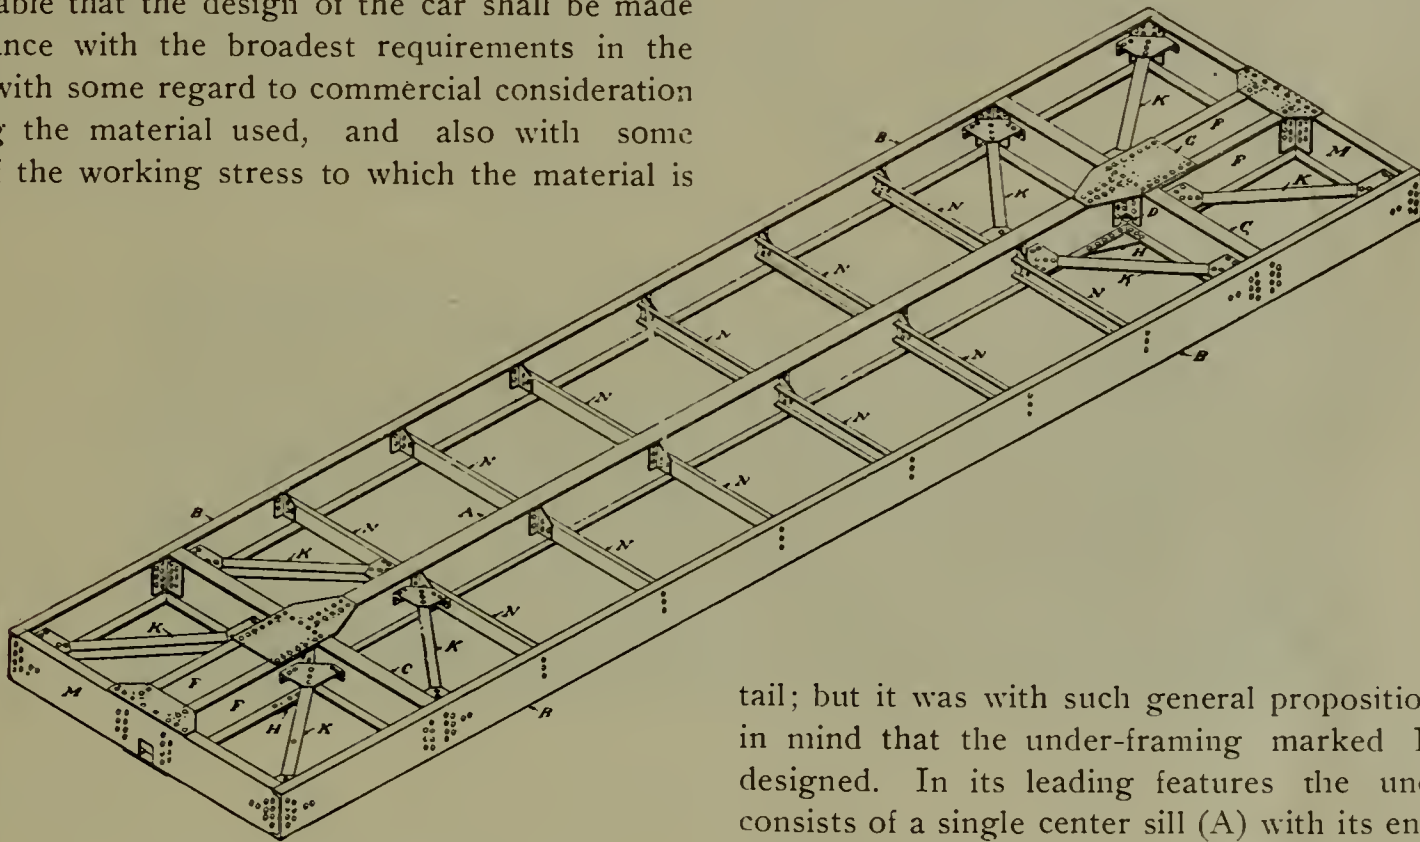

FIG. 1—STEEL CAR FRAMING
(1) A car designed primarily with regard to the nature of car service in general.
(2) The use of materials which may be obtained as nearly as possible in their finished forms, and throughout the country at large, and preferably independently of any one manufacturer.
(3) The application of such materials in the simplest
tail; but it was with such general propositions as these in mind that the under-framing marked Fig. 1 was designed. In its leading features the under-framing consists of a single center sill (A) with its ends abutting against the bolsters (C), the connection with the latter being over the central portion of the center plate. The bolsters (C) are continuous throughout their length and have their ends framed with the side sills (B), the latter extending the full length of the framing. Draft beams (F) bear directly against the bolsters (C) at the one end, and against the end sills (M) at the other; and the end sills (M) are connected, as shown, to the side sills (B).
There is reason to believe that the system of under-framing described (Fig. 1) complies with the general terms of requirement No. 1, in the foregoing; and with regard to requirement No. 2, it may be stated that the center sill and bolsters are standard "I" beams, and that the side sills, draft beams and end sills are standard "channels." The materials, then, are such as may be readily procured, and their sectional form renders unnecessary any special work being done upon them save
The symmetrical character of the commercial "I" beam and channel sections, and their equally symmetrical disposition as indicated in Fig. 1, are in accord with requirement No. 6; and with regard to requirement No. 7, it may be said that while a single center sill may be unusual, reflection will show that it is a correct solution of the problem with regard to the direct transmission of stresses from drawbar to drawbar. It has also been shown that a single center sill has an advantage in transmitting direct to the center plate its share of the vertically applied load, and it will be further recognized that the use of one center sill instead of the